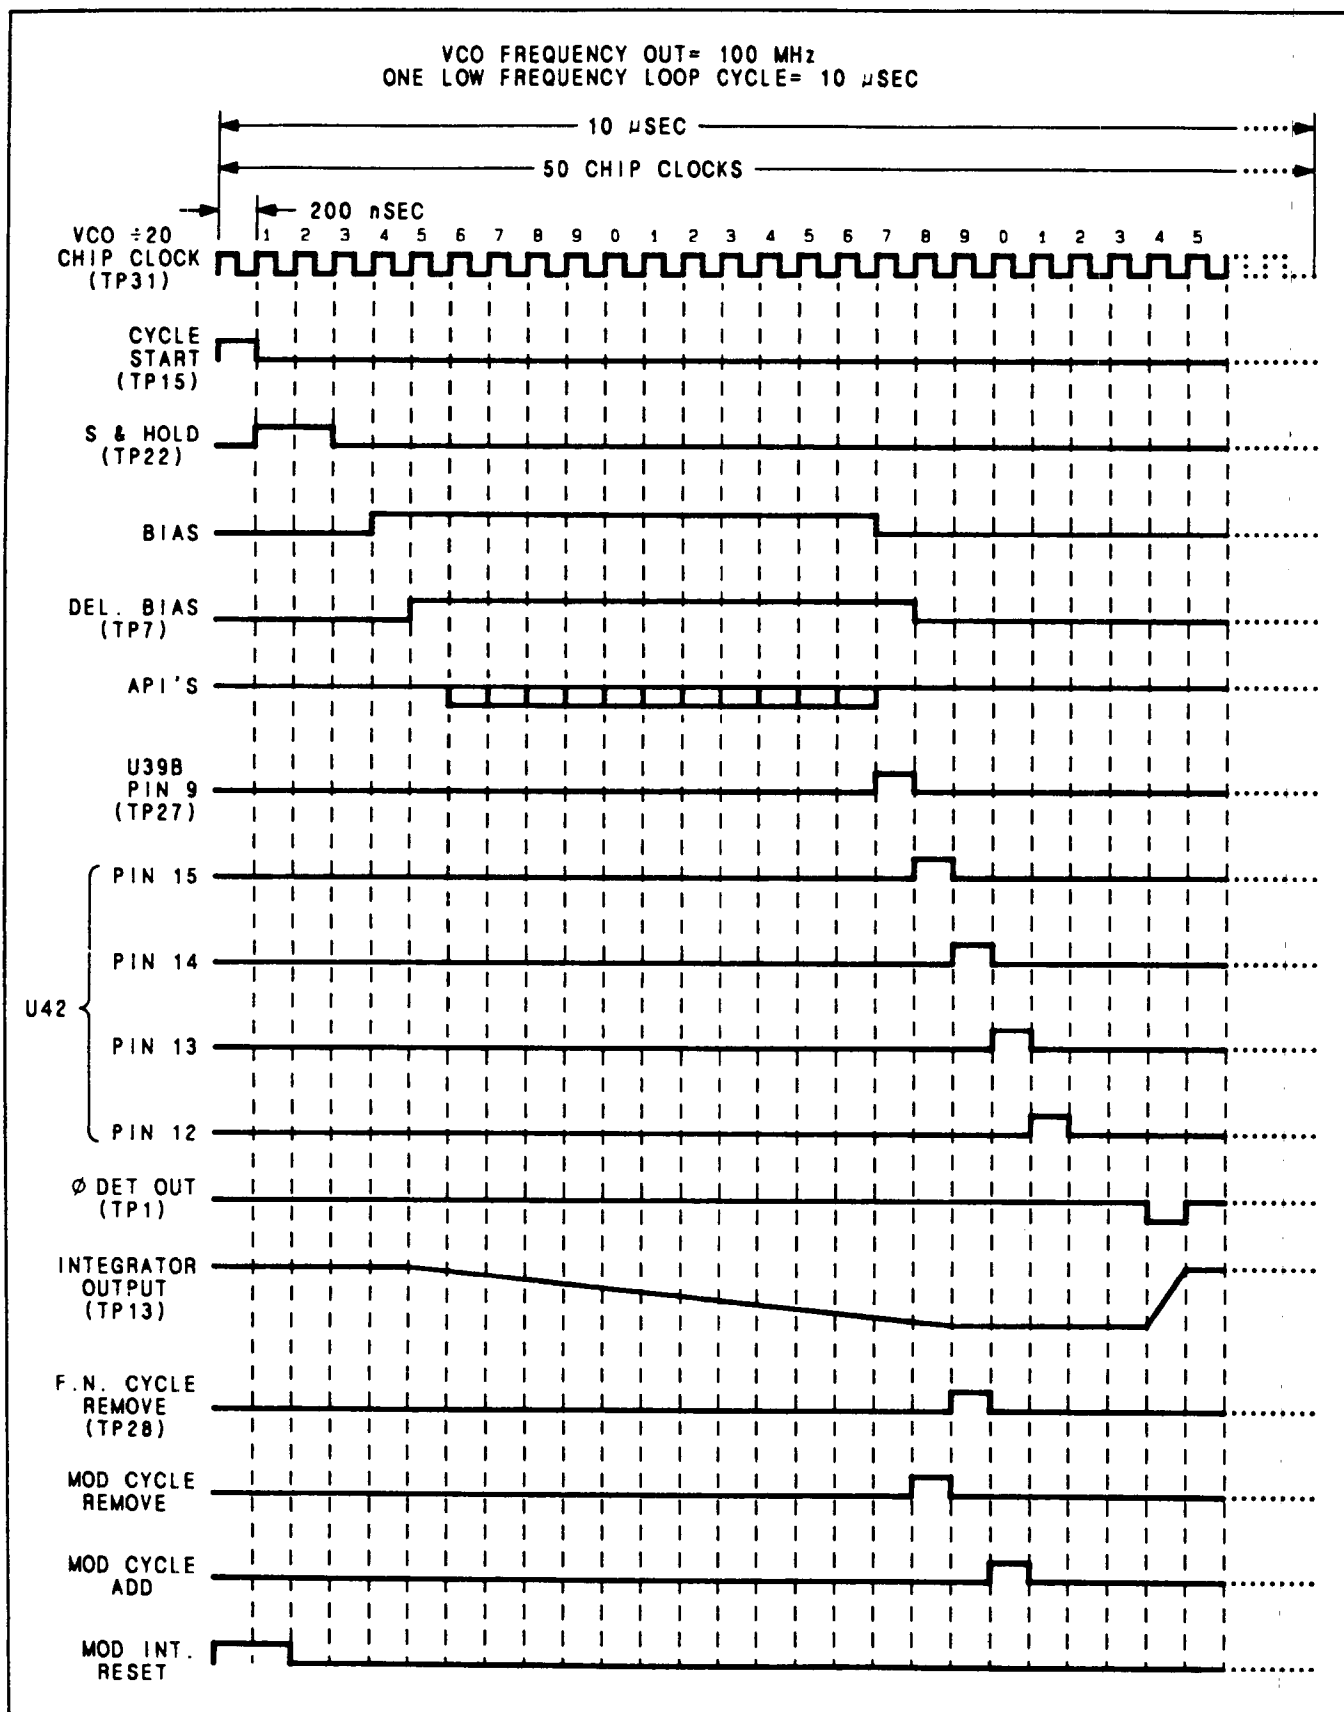
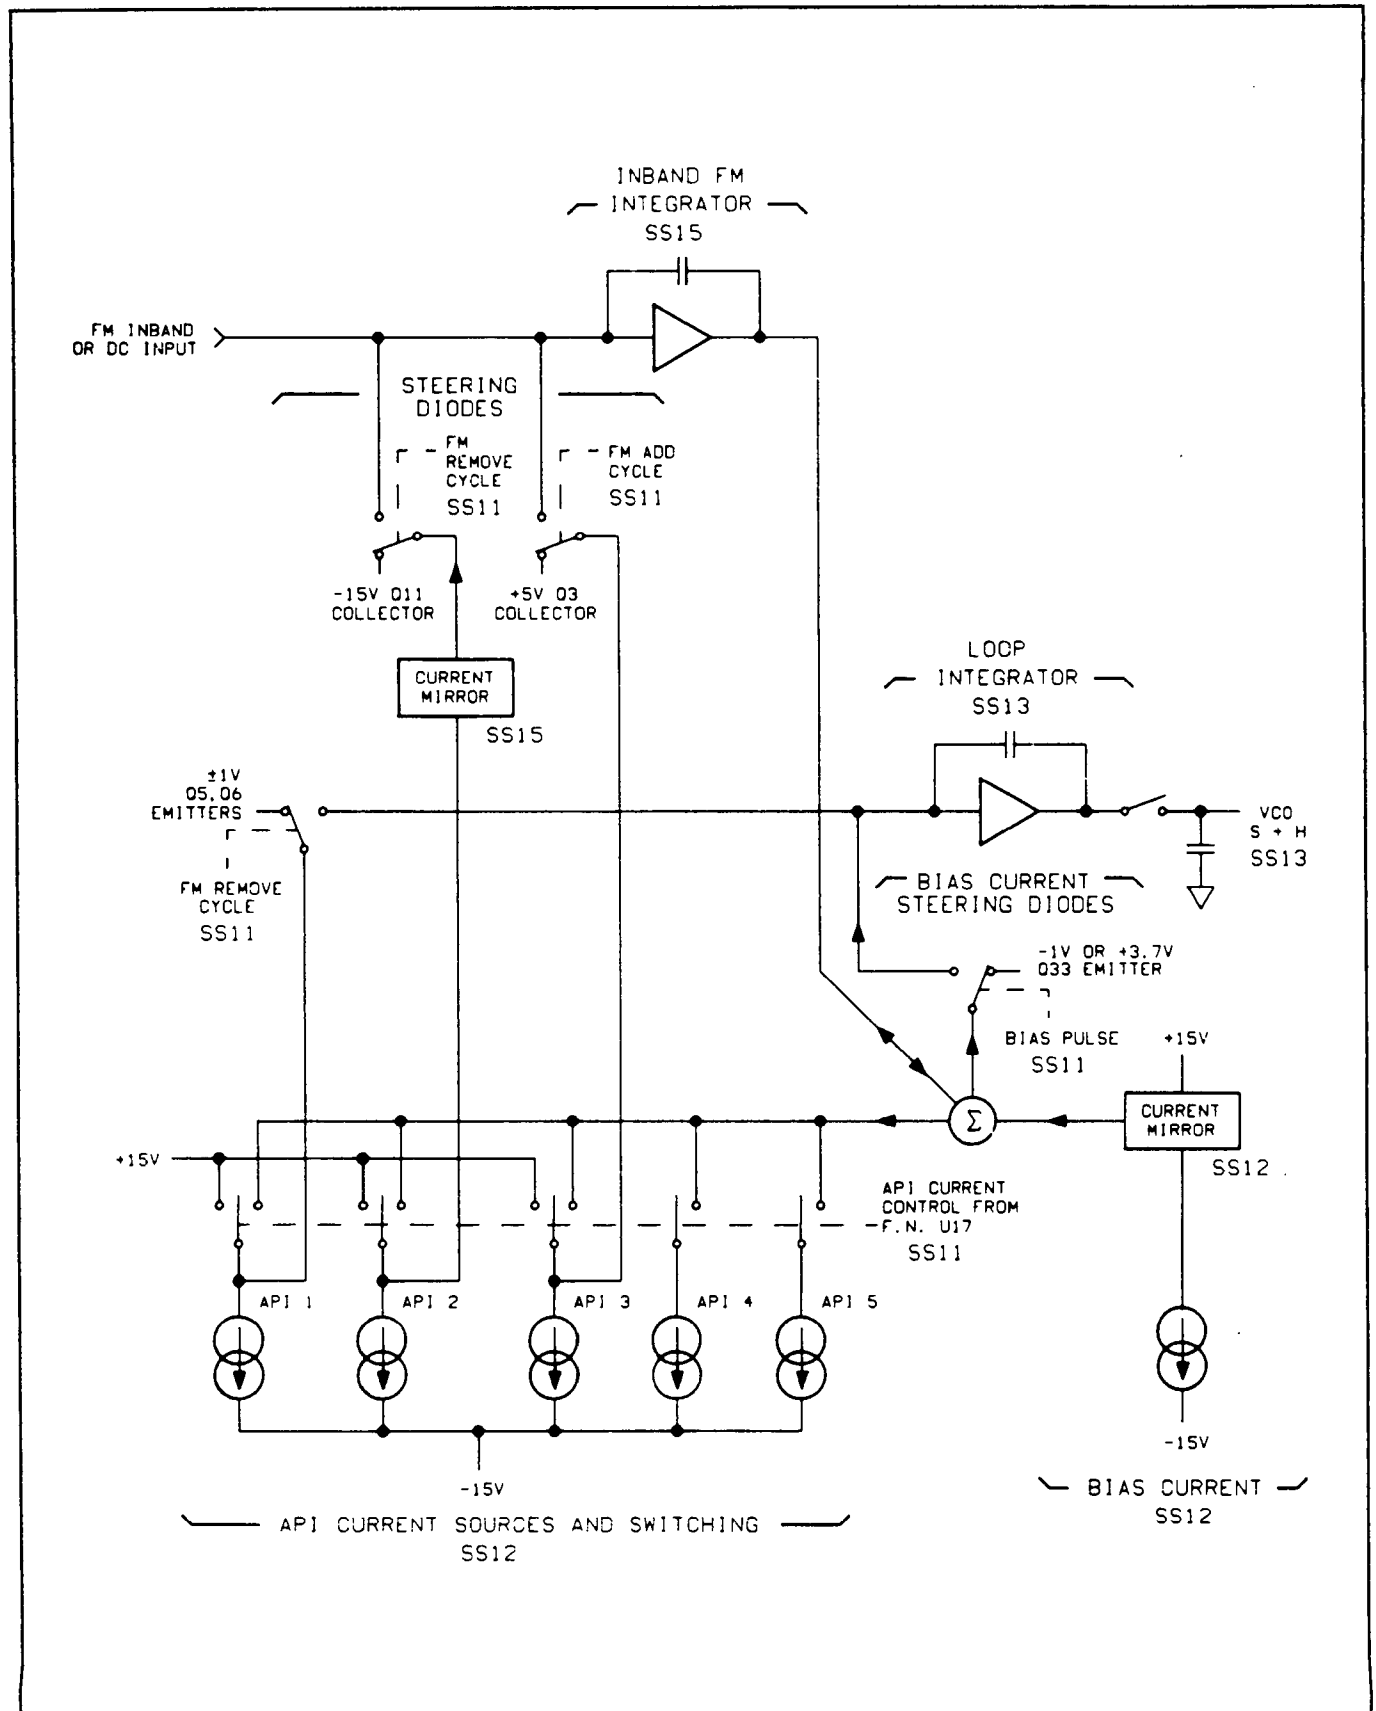

**Figure 1.** Low Frequency Loop Timing Diagram.
**Figure 2. Low Frequency Loop API and Bias Currents.**
The Bias pulse from the Fractional-N Controller U17 is the D input at pin 12 of D flip-flop U6B. CHIP CLOCK at pin 11 clocks the high D input of U6B to the output at pin 9, Delayed Bias. The Bias and Delayed Bias pulses remain high for 13 CHIP CLOCK pulses. The Fractional-N Controller sets its BIAS output high one Chip Clock after its Sample and Hold output was set inactive (low). The Integrator's correction voltage has been stored on the Sample and Hold capacitor. See Figure 1, the Low Frequency Loop Timing Diagram. The Integrator is reset before the next phase correction input is received from the Phase Detector. The Delayed Bias Pulse resets the Integrator by directing Bias Current to the Integrator. Figure 2 shows the API and Bias Currents.
1. Check the Bias pulse at pin 12 of U6B, and the Delayed Bias pulse at pin 9. The pulses are at TTL levels and 13 Chip Clocks long. If the Low Frequency Loop is not locked, and the pulses are still 13 Chip Clocks long, but the pulse width changes as the frequency of the Chip Clock changes, refer to Figure 1 and continue with check 1.